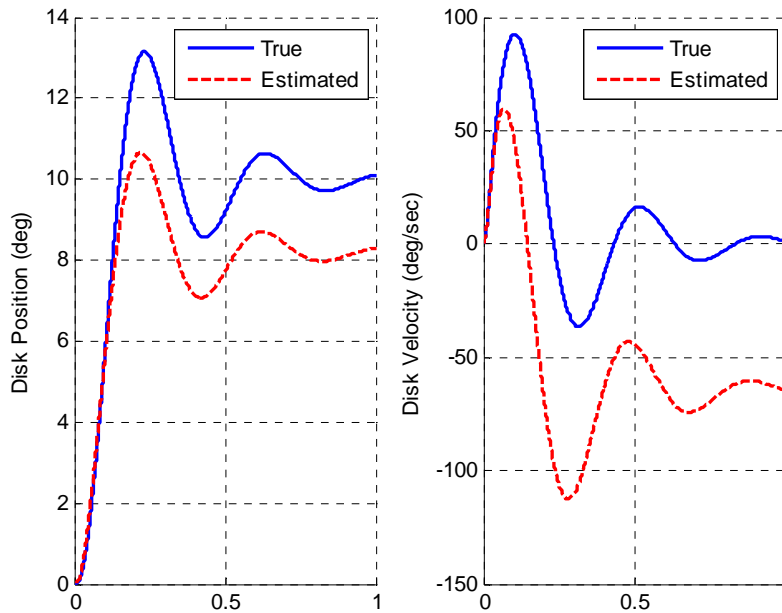

Figure 19. Full order observer with integrator and bad data (problem 5c).
c) Now we will try and observe what happens when there is a difference between our model and the real system. Modify the observer block in the model file, so the A matrix is called AA. Just before you run the model file, enter the command $A = A*1.5$. You should get results like those in Figure 19.
Note that in both Figures 19 and 20, the steady state error is zero, even if the observer is not converged.